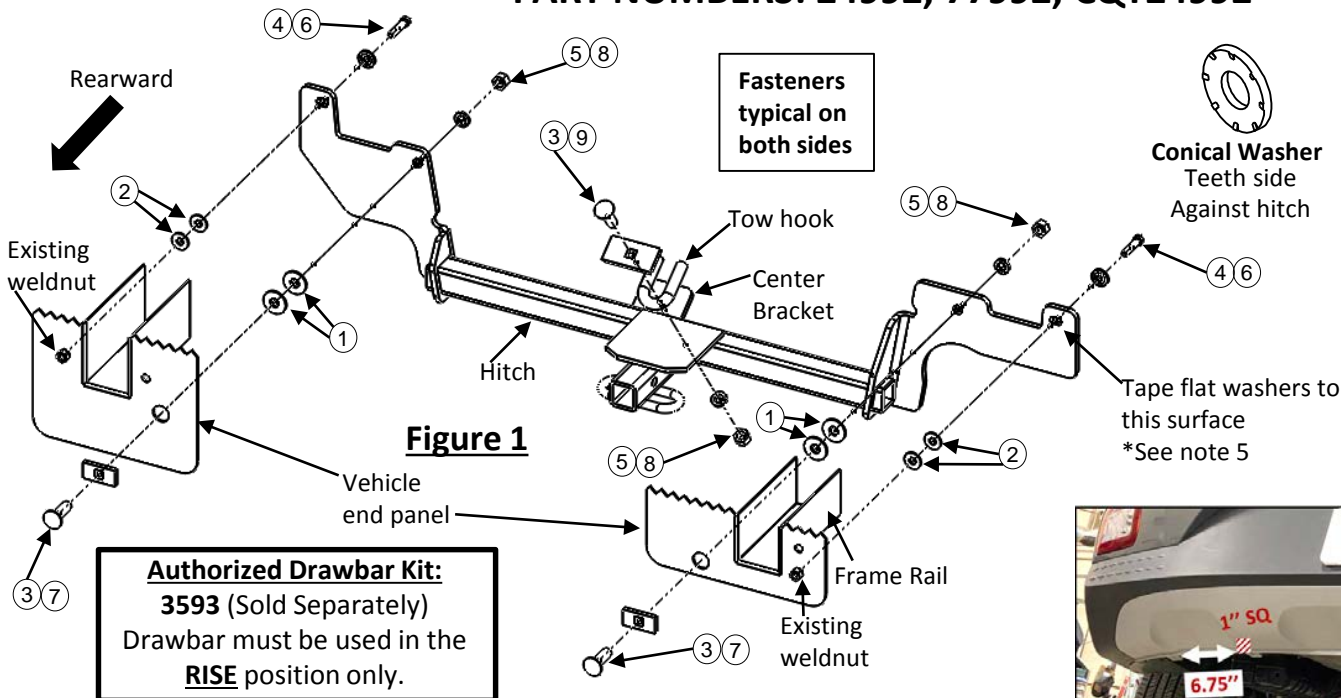

Figure 1
- Remove carbon canister splash guard panel** – Using a flathead screwdriver, remove (2) push pin-rivets from carbon canister splash guard panel on driver side. Remove the panel from (2) studs on the frame rails and spare tire panel. Return to vehicle owner.
- Loosen rear wheel well liners** – Using a flat head screwdriver, remove (2) push-pin rivets from the rear wheel well liners, per side. Using a short Phillips screwdriver, remove (2) screws from the side of wheel well liner, per side. Keep for reinstallation.
- Lower vehicle exhaust** – Using the exhaust removal pliers, lower muffler by removing (2) rubber hangers, (1) on each end of muffler. Using pliers, slightly bend heat shield on passenger side closest to end panel. **Note:** Be sure that exhaust is supported **before** removing rubber hangers. A spray lubricant or soapy water on rubber hangers make them slide off metal pins more easily.
- Remove end panel bolts** – Using a 12mm socket, remove (1) bolt from vehicle end panel (see **figure 1**, existing weldnut locations), both sides, see **figure 1**. Return to vehicle owner. **Note:** The existing weldnut remains fastened to opposite side of end panel. **Do not** remove.
- Install Hitch** – Tape (2) 1/2" and (2) 3/8" flat washers ① ② on the hitch brackets and align holes with hitch bracket slots. Insert Carr. Bolt and spacer into tow hook ③ ⑨, see **figure 1**. Raise hitch into position, over the exhaust, and loosely install 1/2" carriage bolt, spacer, nut, and conical washer ③ ⑦ ⑤ ⑧ at the lower innermost holes of end panel, both sides, see **figure 1**. **Note:** make sure spacers lay flat on end panel and horizontal. Loosely install M8 bolt and conical washer ④ ⑥ into existing weldnut. Loosely secure the center bracket to tow hook with 1/2" carriage bolt, spacer, conical washer, and nut ③ ⑨ ⑤ ⑧.
1. **Remove carbon canister splash guard panel** – Using a flathead screwdriver, remove (2) push pin-rivets from carbon canister splash guard panel on driver side. Remove the panel from (2) studs on the frame rails and spare tire panel. Return to vehicle owner.
2. **Loosen rear wheel well liners** – Using a flat head screwdriver, remove (2) push-pin rivets from the rear wheel well liners, per side. Using a short Phillips screwdriver, remove (2) screws from the side of wheel well liner, per side. Keep for reinstallation.
3. **Lower vehicle exhaust** – Using the exhaust removal pliers, lower muffler by removing (2) rubber hangers, (1) on each end of muffler. Using pliers, bend heat shield on passenger side closest to end panel. **Note:** Be sure that exhaust is supported before removing rubber hangers. A spray lubricant or soapy water on rubber hangers make them slide off metal pins more easily.
4. **Remove end panel bolts** – Using a 12mm socket, remove (1) bolt from vehicle end panel (see **figure 1**, existing weldnut locations), both sides, see **figure 1**. Return to vehicle owner. **Note:** The existing weldnut remains fastened to opposite side of end panel. Do not remove.